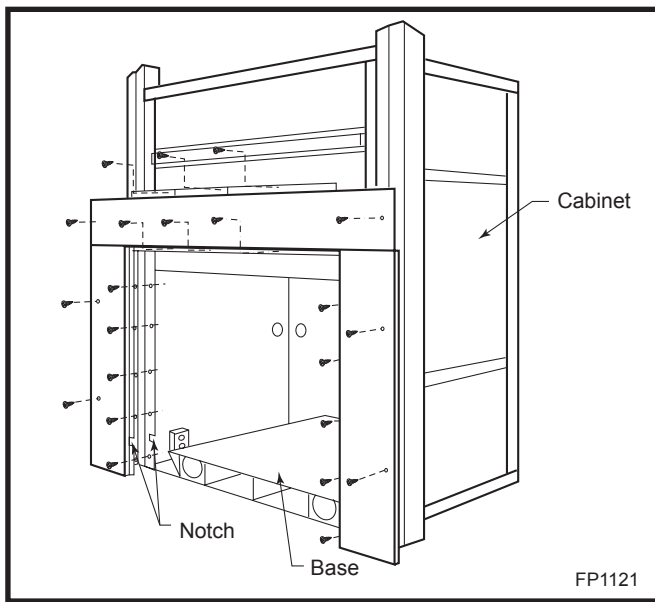

Fig. 43 The trim panels fasten the cabinet to the chase framing and give the installation a finished appearance.
5. Attach the trim pieces to the cabinet. (Fig. 43) The parts supplied for this procedure include 16 sheet metal screws and one each of the following: an upper trim panel, a left trim panel and a right trim panel. You will also need an electric drill equipped with a 1/8" (3mm) bit and a 5/16" (8mm) head driver, and a felt tip pen for marking.